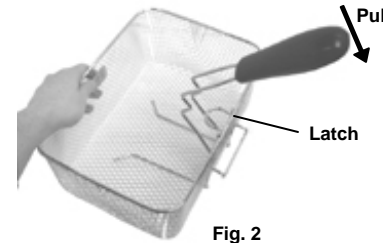

Fig. 2
2. Holding the frying basket securely in one hand, pull the handle toward you so that the metal part of the handle fastens securely to the rounded frying basket latch. (Fig. 2)